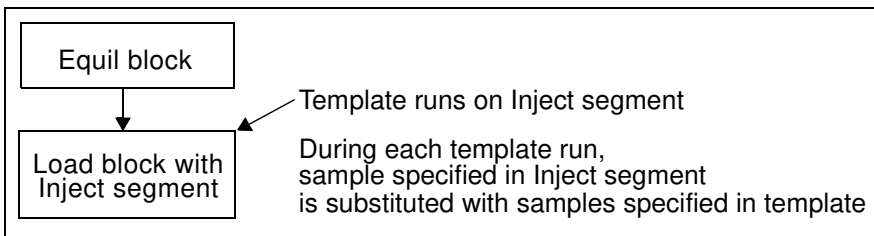

Figure 7-7 Using Analysis Template for Analysis
- **Analysis**—Inject multiple samples using the same method (Figure 7-7).
<p>Analysis—Inject multiple samples using the same method (Figure 7-7)</p>	<ul style="list-style-type: none"> • An AS 3500 integrated autosampler is configured • Sample vials are loaded in the AS 3500 autosampler and entered in the Sample Table • Method contains a Load block with an Autosampler Inject segment